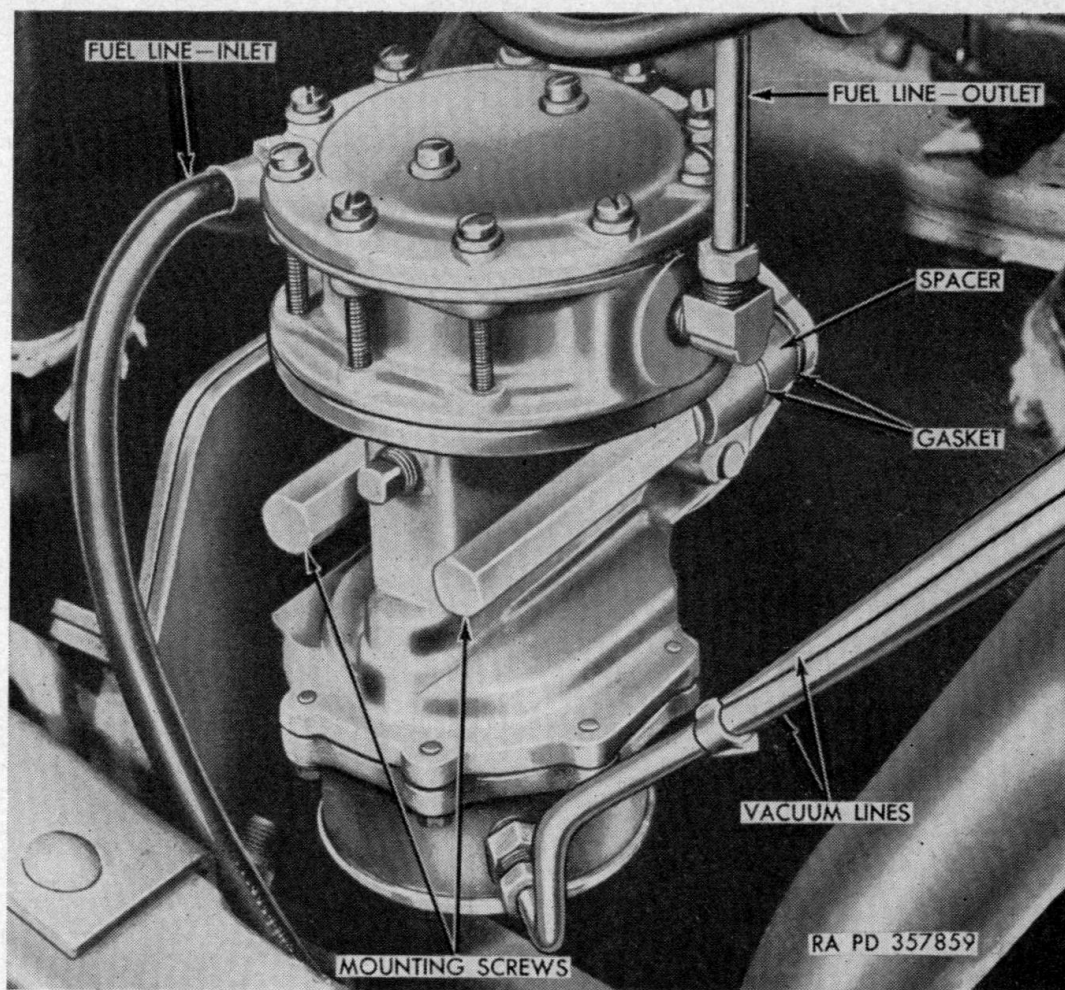

Figure 29. Fuel and vacuum pump.
*a. REMOVAL.* Disconnect the two vacuum lines from the bottom portion and two fuel lines from the upper portion of the pump (fig. 29). Remove the two mounting screws and lift off the pump. Two gaskets and a spacer will be found between the pump and cylinder block.
*b. INSTALLATION.* Insert mounting screws in the mounting holes of pump and set the spacer with a gasket on each side over the bolts. Place in position against the cylinder block and tighten down the bolts. Connect the two vacuum lines and two fuel lines (fig. 29).